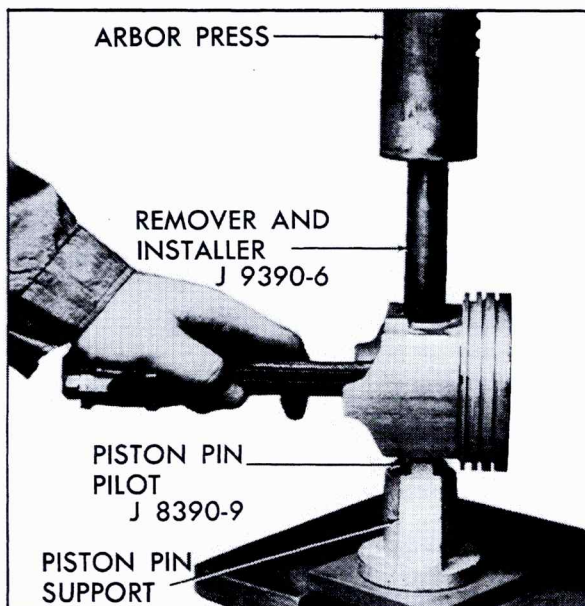

Fig. 6-133 Piston Pin Removal
3. Position piston and connecting rod assembly on support with side of piston marked with the letter "R" upward, Fig. 6-133.